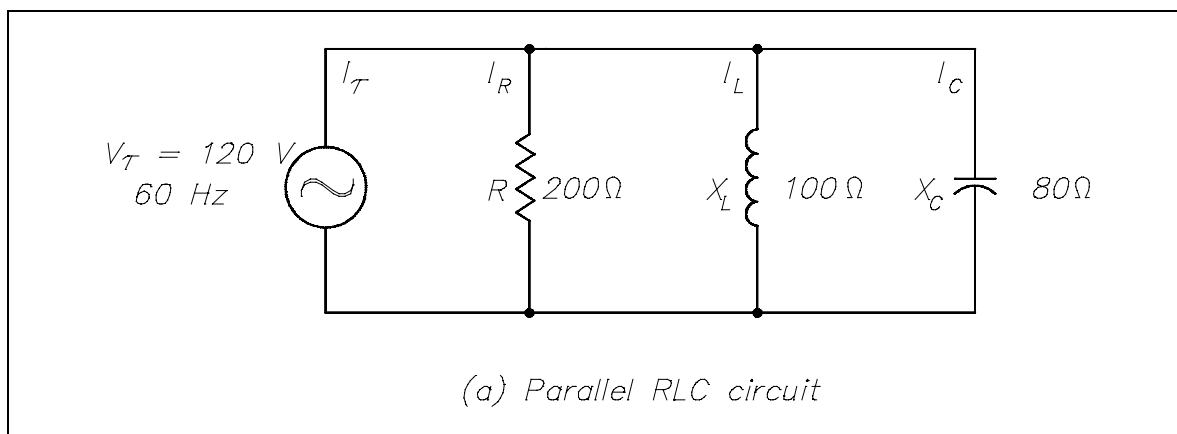

Figure 10 Simple Parallel R-C-L Circuit
Example: A $200\ \Omega$ resistor, a $100\ \Omega$ X_L , and an $80\ \Omega$ X_C are placed in parallel across a 120V AC source (Figure 10). Find: (1) the branch currents, (2) the total current, and (3) the impedance.
If a capacitor and an inductor, each with negligible resistance, are connected in parallel and the frequency is adjusted such that reactances are exactly equal, current will flow in the inductor and the capacitor, but the total current will be negligible. The parallel C-L circuit will present an almost infinite impedance. The capacitor will alternately charge and discharge through the inductor. Thus, in a parallel R-C-L, as in Figure 10, the net current flow through the circuit is at minimum because of the high impedance presented by X_L and X_C in parallel.